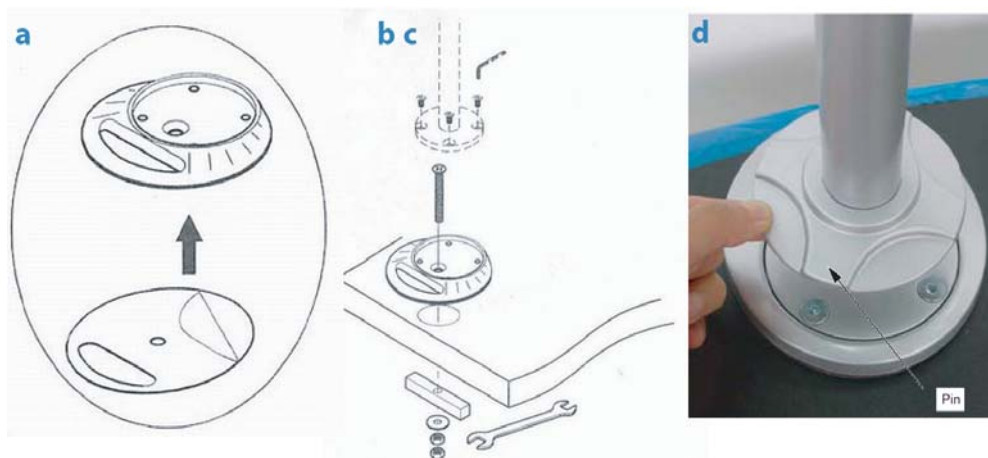

Figure C-10 Pole Mounting
- 1.) Mount the pole on the worksurface. (See Figure C-9 and Figure C-10)